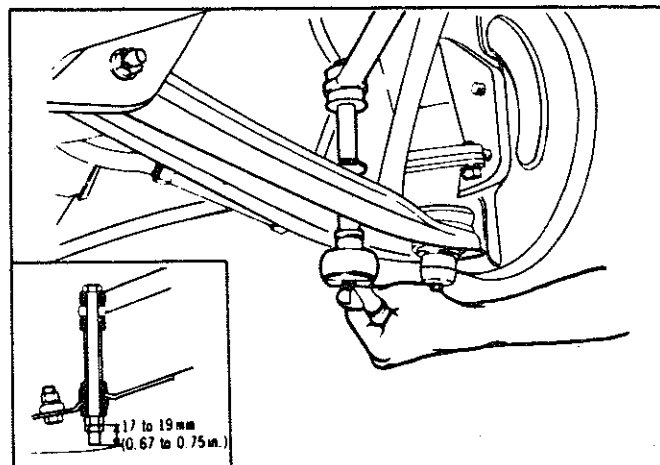

Fig. 36—Installing the stabilizer
(3) When installing both ends of the stabilizer, tighten the lock nut, so that the standard dimension may be maintained between the nut and the end of the bolt (see Fig. 36).